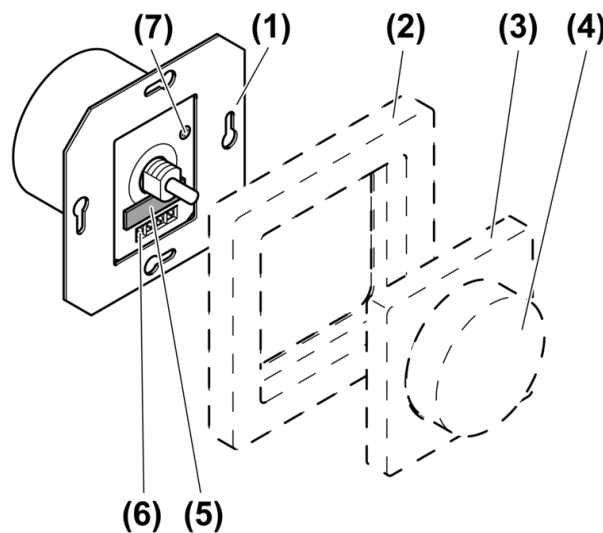

Figure 1: Device components
- Set basic brightness by turning the adjuster (7) (figure 1). The basic brightness must be set in such a way that the connected lamps are still visibly lit when the control button is turned all the way to the left.